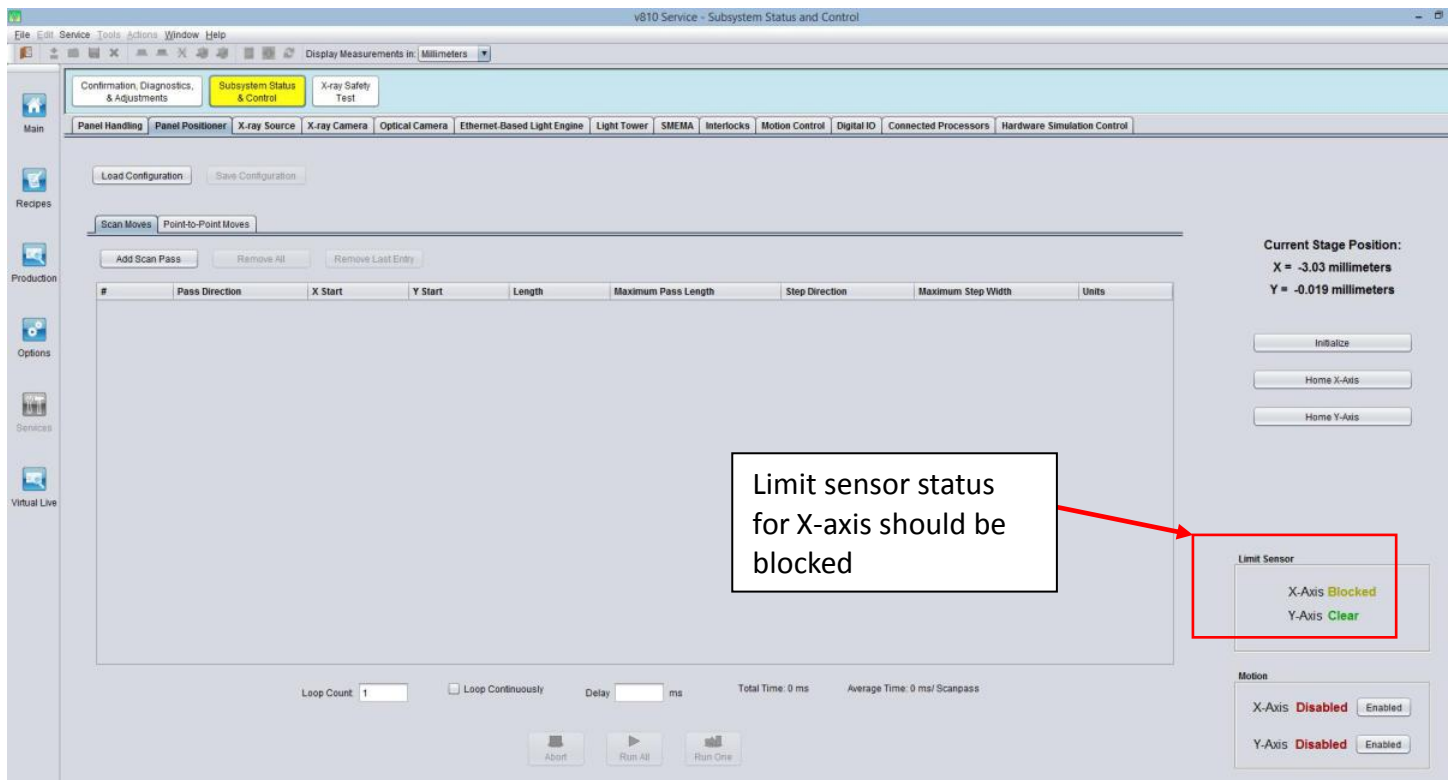

Figure 21 X-Axis Limit Sensor
23. Push the stage to the minimum hard stop (left outer barrier side) and status of the X-axis limit sensor should be indicated as “Blocked” as shown in Figure 21.